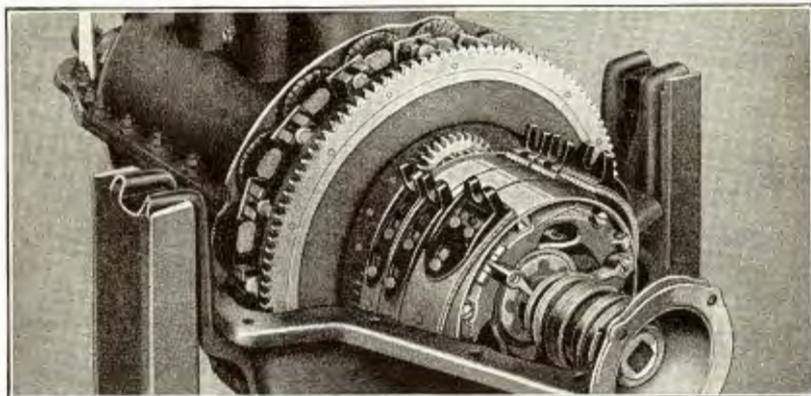

Fig. 549
- 1206** The new transmission brake band has been increased from $1\frac{1}{8}$ " to $1\frac{3}{4}$ " wide, an improvement which affords an exceptionally smooth and positive braking effect as well as contributing to the ease of braking. In addition, the increased width of the band (see Fig. 549) makes adjustments infrequent and materially increases the life of the lining.